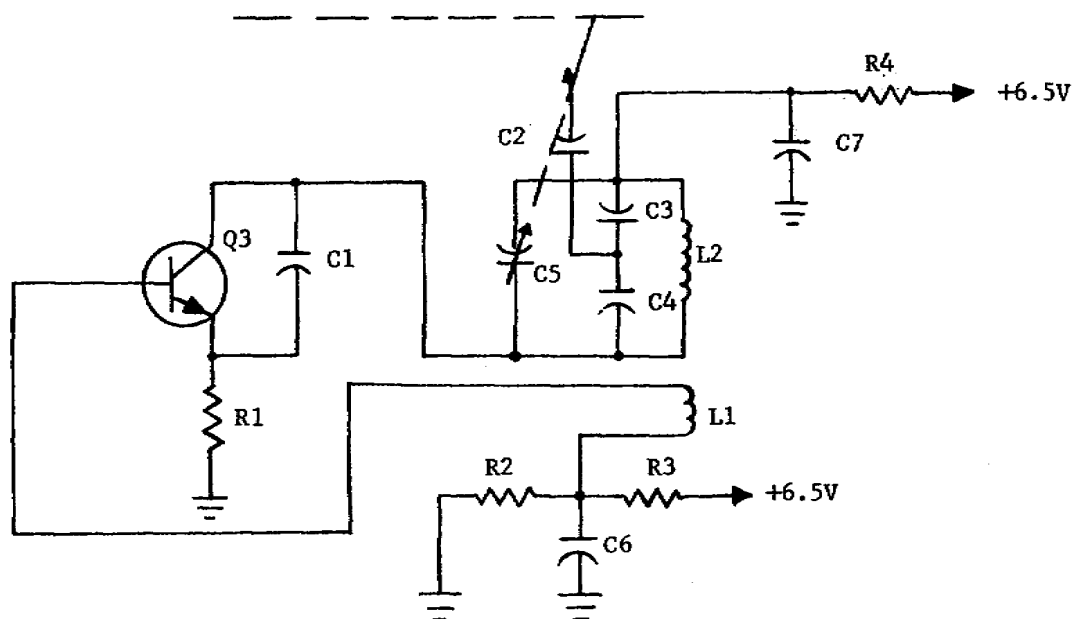

Figure 2-4. Local oscillator.
The oscillator stage, also employing a common-emitter circuit, is shown in figure 2-4.
19. To sustain oscillations in an oscillator, there must be some regenerative feedback. In the circuit shown in figure 2-4, regenerative feedback is accomplished